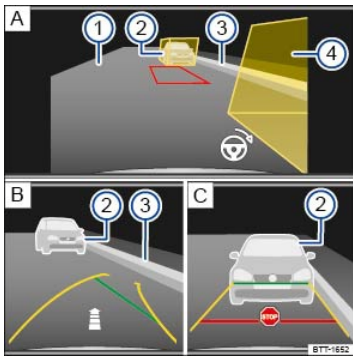

Fig. 129 Orientation lines and boxes for parallel parking mode (if equipped).
Key to ⇒ Fig. 129 :
- Position the vehicle about 3 feet (1 meter) away from and parallel to the parking space. The yellow boxes should completely cover any boundaries ⇒ Fig. 129② and ④ **A**. The space between the yellow boxes must be free of obstacles.
- Without moving the steering wheel, slowly back up until the stop symbol **⊖** appears **OR** until the side green line aligns with the side boundary of the parking space, for example, the curb **③**. An arrow **B** shows the approximate remaining distance, based on the number of segments shown in the arrow.
- Continue to slowly back up until the stop symbol **⊖** appears **C**. **OR**: At the very latest, stop the vehicle when the horizontal red line has reached the rear boundary, for example, a parked vehicle **②** **C**. Position the vehicle parallel to the road as necessary.